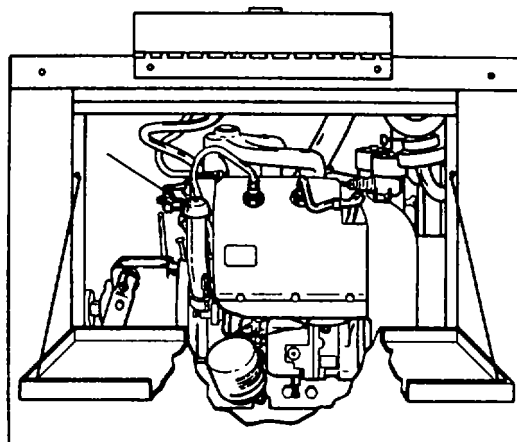

Figure 6-37. Engine Oil Breather
- (7) Attach clutch linkage at clutch. Secure with cotter pin.
- (8) Attach and secure oil drain line at engine.
- (9) Fill with proper oil. (Figure 6-37)